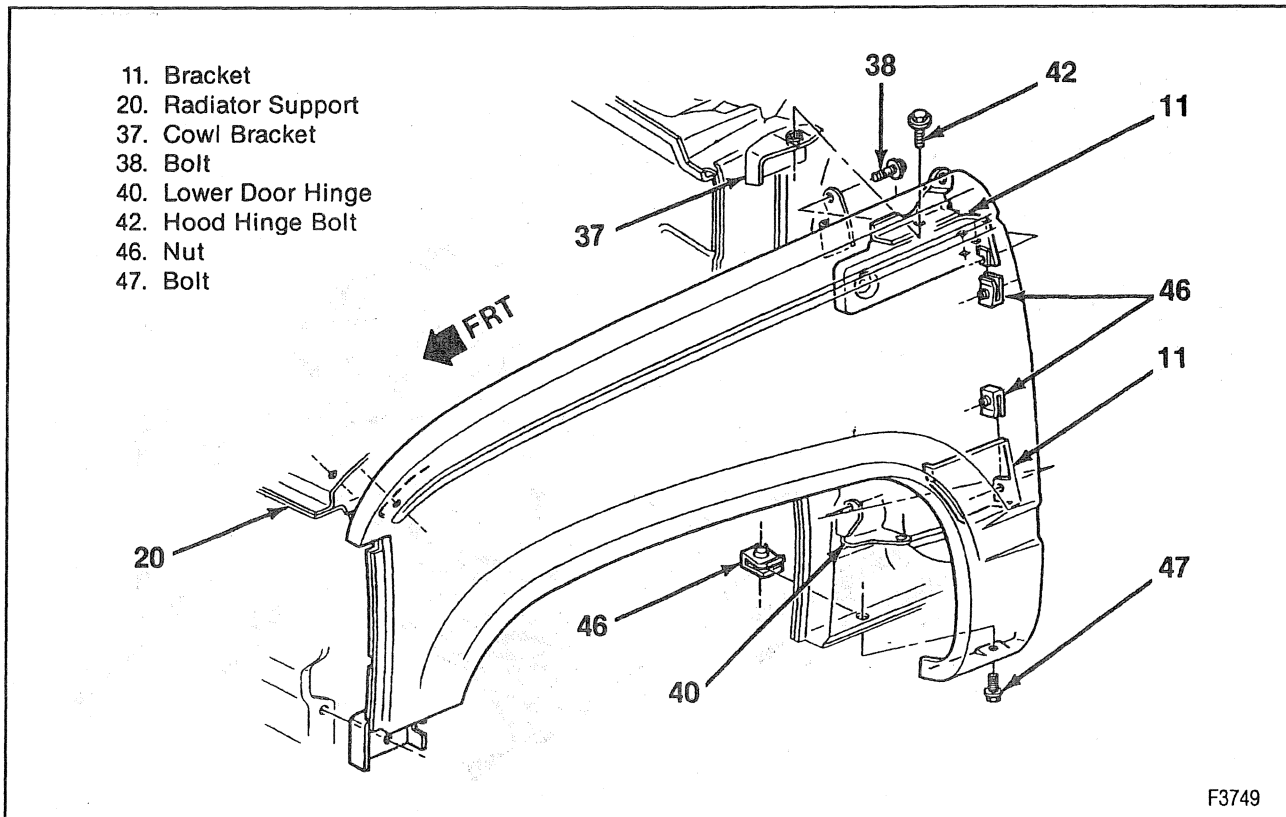

Figure 11—Fender Assembly
15. Bolt holding the fender to the cab assembly (figure 11).
16. Bolts holding the fender to the door hinges (figure 11).
5. Bolt and nut from the fender to the cab assembly (figure 11).
13. Bolt holding the fender to the cab assembly (figure 11).